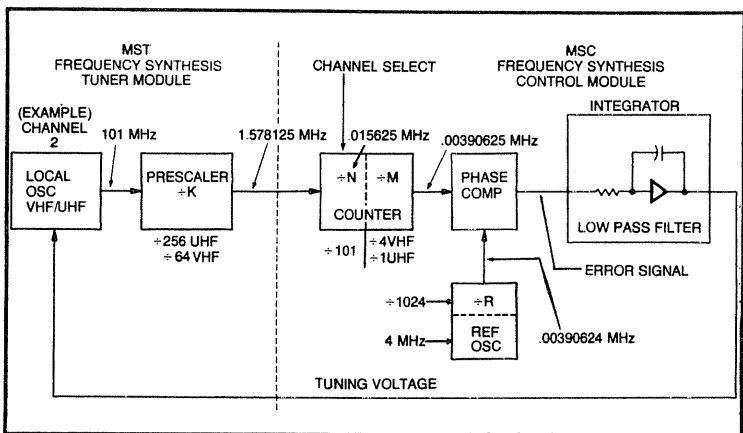

Fig. 7-3. Basic phase-locked loop operation.
A basic frequency synthesis (FS) is shown in Fig. 7-3 of the phase-locked loop block diagram. This basic system utilizes the phase-locked loop (PLL) principle in conjunction with a digital frequency programmer to generate a number of discrete frequencies.